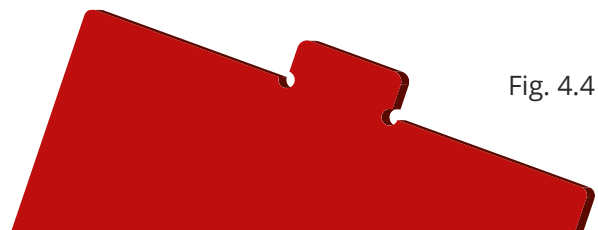

Fig. 4.4
- The sheets to be fastened usually have to be placed as close as possible to each other. You should therefore ensure that the sheet with the tabs can rest on the sheet with the slots. If necessary, also remove the internal radius from the tab. (Fig. 4.4) In the case of thicker sheets (from 8 mm), a part of the slot's radius can be cut away in the corner to make it easier to fasten the tab.